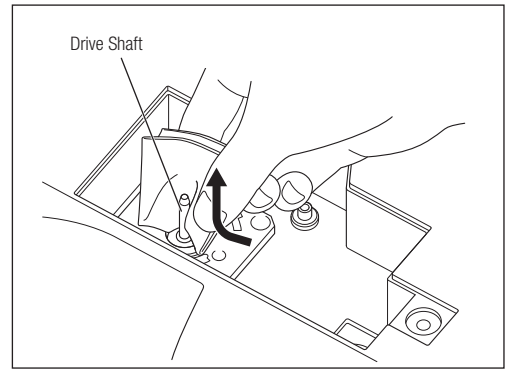

Fig. 55
- Wipe dirt and water off the Drive Shaft from the bottom up (Fig. 55).